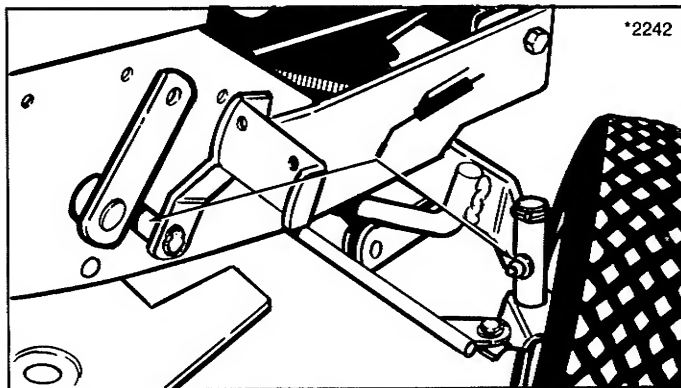

Figure 5. Grease Fittings
- a. One fittings in each front axle (right hand shown) (figure 5);
- b. One fitting on clutch-brake pedal (figure 5);